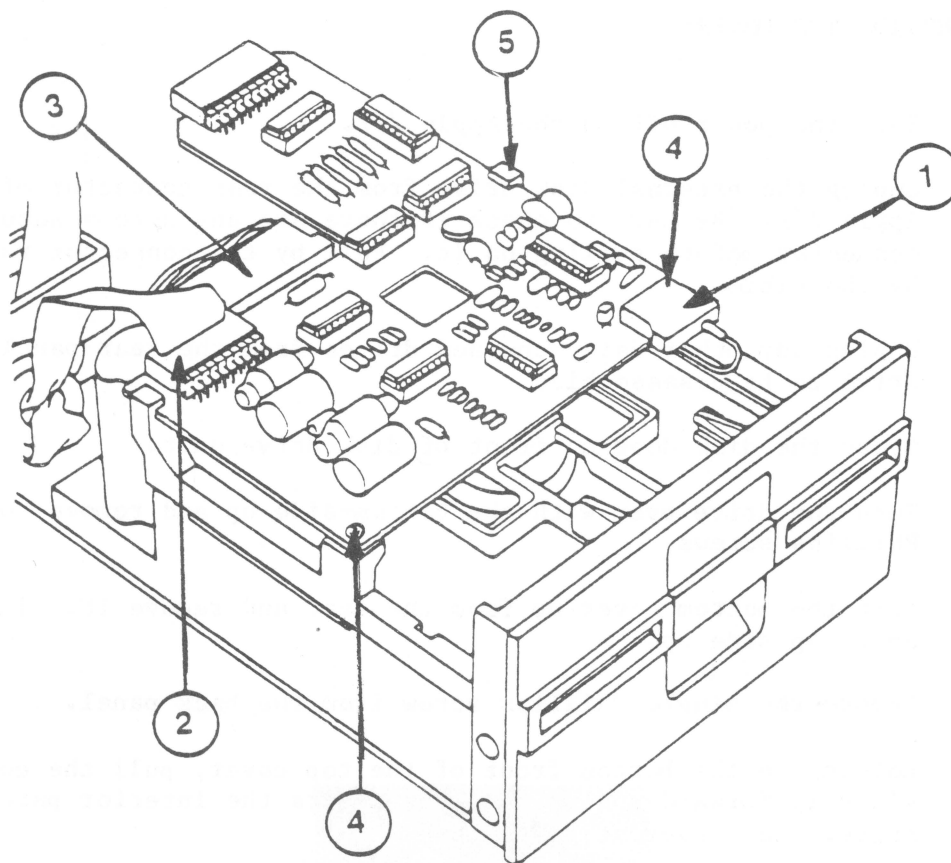

FIGURE 2
12. Lift up on the connector retainer of the board plug (Figure 2,#3) and remove the plug.
13. Remove the ribbon cable connector from the analog card (Figure 2,#2). It might be fastened very securely, so grasp the connector and pull back firmly until it disconnects. It may help to wiggle it gently back and forth as you pull back, but be careful not to bend the connector pins.
15. Remove head molex plug from front of analog card (Figure 2,#1).
16. Remove the two screws at the front of the analog card (Figure 2,#4).
17. Slide analog card forward past the retaining slots at the rear and then lift out (Figure 2,#5).